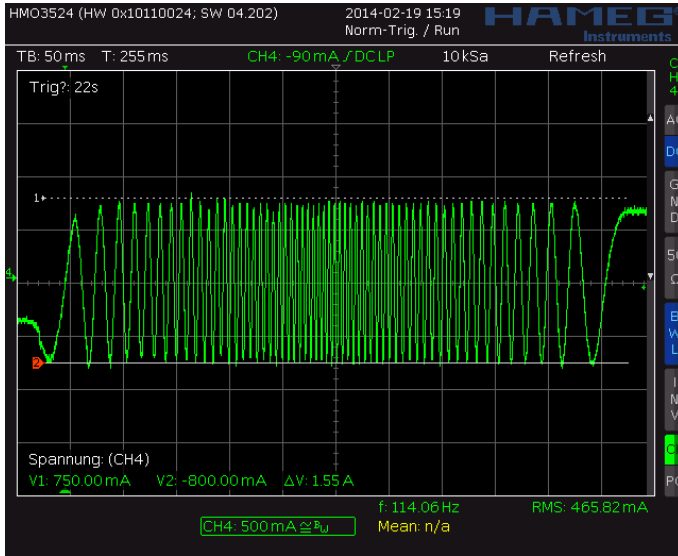
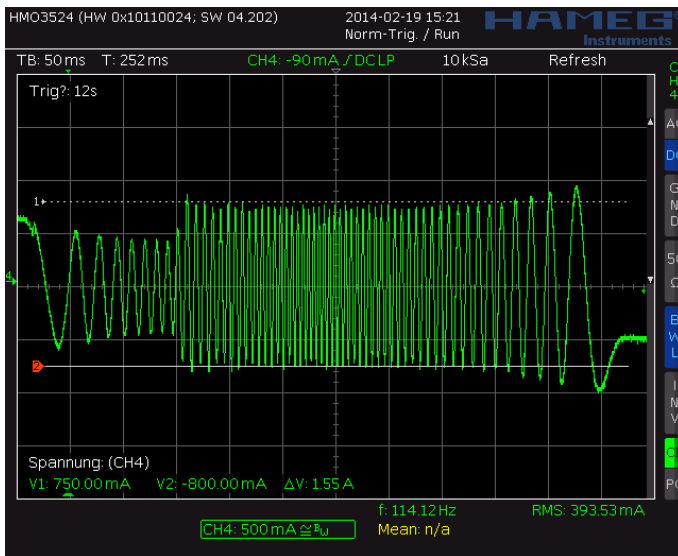
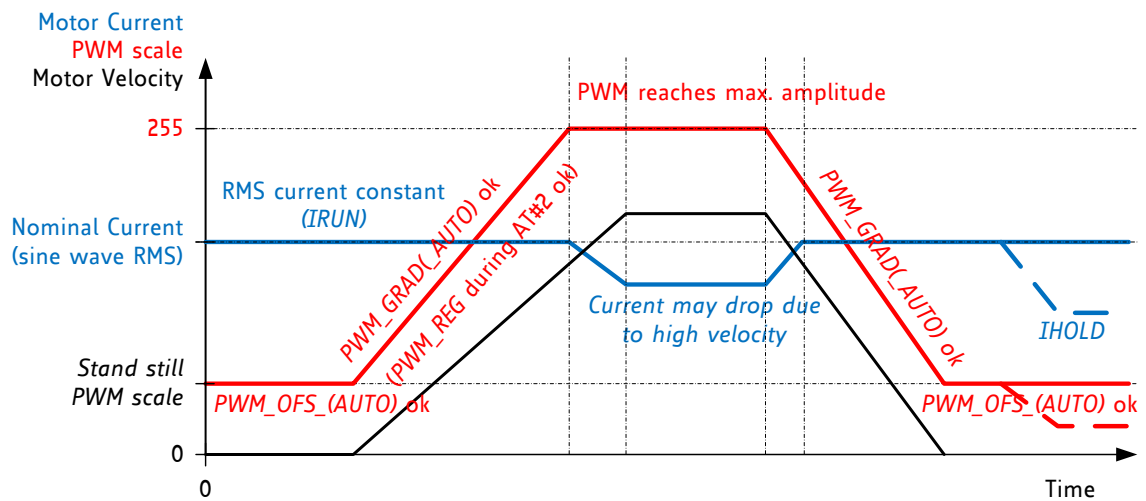

Figure 6.3 Scope shot: good setting for PWM_REG
Figure 6.4 Scope shot: too small setting for PWM_REG during AT#2
Figure 6.5 Successfully determined PWM_GRAD(AUTO) and PWM_OF(S)_AUTO
In StealthChop voltage PWM mode, the autoscaling function ($pwm_autoscale = 1$, $pwm_auto_grad = 1$) regulates the motor current to the desired current setting. Automatic scaling is used as part of the automatic tuning process (AT), and for subsequent tracking of changes within the motor parameters. The driver measures the motor current during the chopper on time and uses a proportional regulator to regulate PWM_SCALE_AUTO in order match the motor current to the target current. PWM_REG is the proportionality coefficient for this regulator. Basically, the proportionality coefficient should be as small as possible in order to get a stable and soft regulation behavior, but it must be large enough to allow the driver to quickly react to changes caused by variation of the motor target current (e.g. change of $VREF$). During initial tuning step AT#2, PWM_REG also compensates for the change of motor velocity. Therefore, a high acceleration during AT#2 will require a higher setting of PWM_REG . With careful selection of homing velocity and acceleration, a minimum setting of the regulation gradient often is sufficient ($PWM_REG=1$). PWM_REG setting should be optimized for the fastest required acceleration and deceleration ramp (compare Figure 6.3 and Figure 6.4). The quality of the setting PWM_REG in phase AT#2 and the finished automatic tuning procedure (or non-automatic settings for PWM_OFS and PWM_GRAD) can be examined when monitoring motor current during an acceleration phase Figure 6.5.